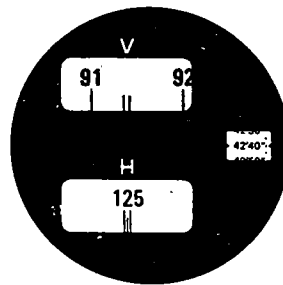

Fig. 19
- d. Turn the micrometer knob and read the horizontal circle. Example: $125^{\circ}42'40''$ (Fig. 19)